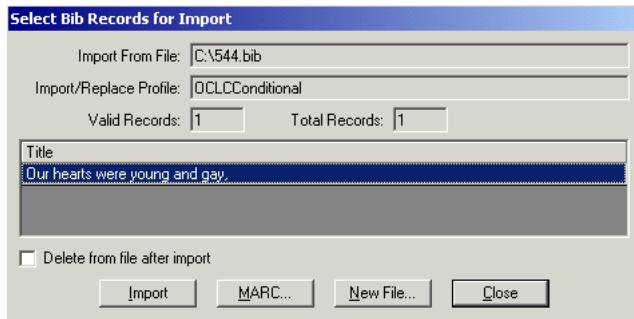

Figure 13-10. Select Bib Record(s) for Import dialog box - MARC button displayed
- The **MARC** button on the **Select Bib Records for Import** dialog box (see Figure 13-10) which is used to import bibliographic records into the database from a file.